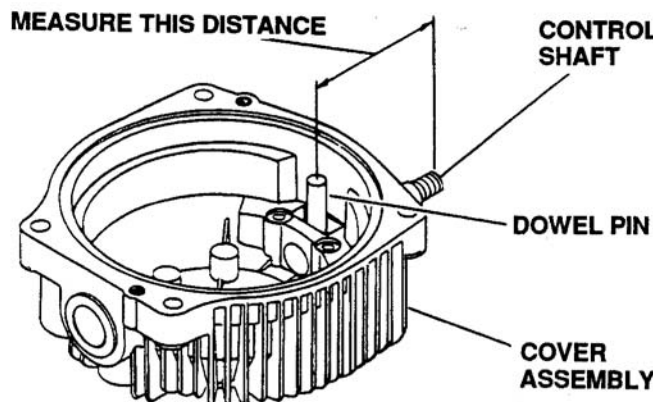

Figure 6-112. Removal of Control Shaft
- (1) Measure the distance between the center of the dowel pin and the end of the control shaft. See Figure 6-112.